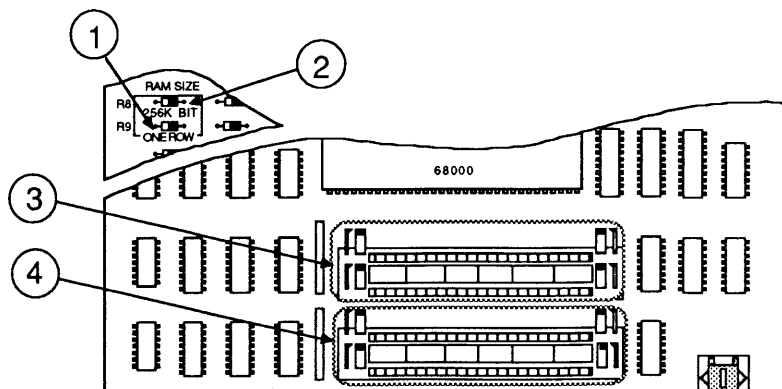

FIGURE 10
Note: For installation purposes, the SIMMs are labeled Bank A (Figure 10, #3) and Bank B (Figure 10, #4). Each bank or row is composed of two slots, and both slots must have a SIMM installed.
- If you have more than one bank of SIMMs installed, the ONE ROW, R9 (Figure 10, #1) resistor should be cut out using insulated wire cutters.
- If you have 256K SIMMs in both Bank A (Figure 10, #3) and Bank B (Figure 10, #4), the resistor marked 256K BIT, R8 (Figure 10, #2) must be installed.